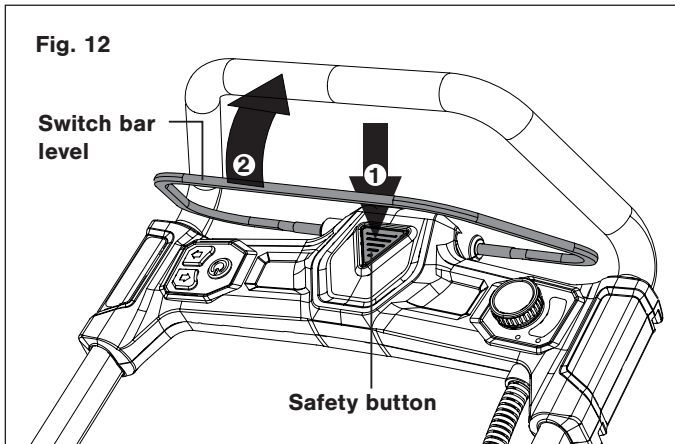

Fig. 12
2. To switch the snow blower ON, press the safety button, then squeeze the switch bar lever (Fig. 12).